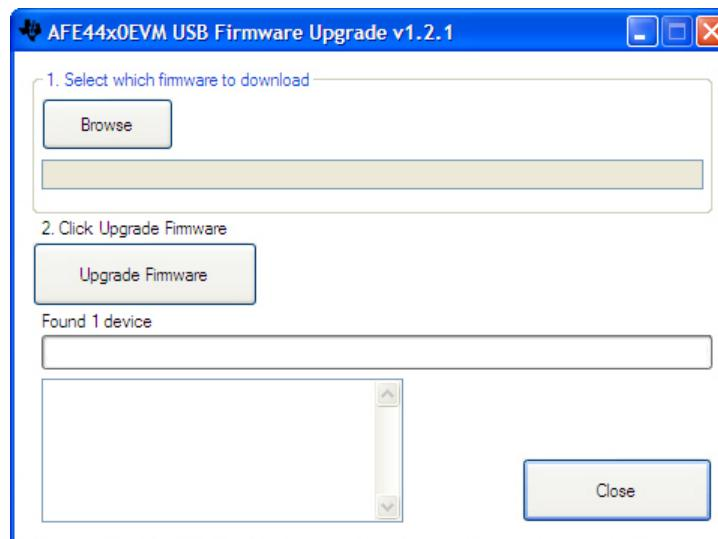

Figure 37. PC Application Firmware Upgrade – 2
- The firmware upgrade application detects the connected EVM (Figure 37).